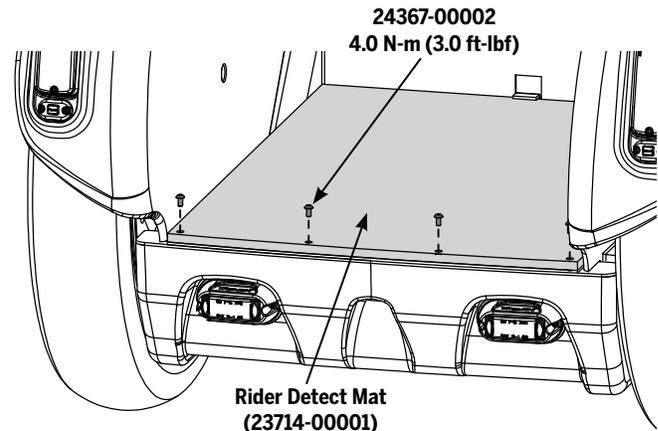

Figure 120: Rider Detect Mat
3. Using a 3 mm hex wrench, remove the four fasteners as shown in **Figure 120**.
6. Using a 3 mm hex wrench, install the four fasteners as shown in **Figure 120**. Torque to **4.0 N-m (3.0 ft-lbf)**.